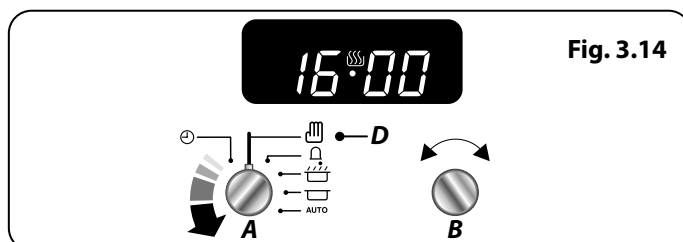

Fig. 3.14
To cancel any automatic settings, turn the **Timer (A)** knob to the **Manual (D)** setting and release (**Fig. 3.14**).